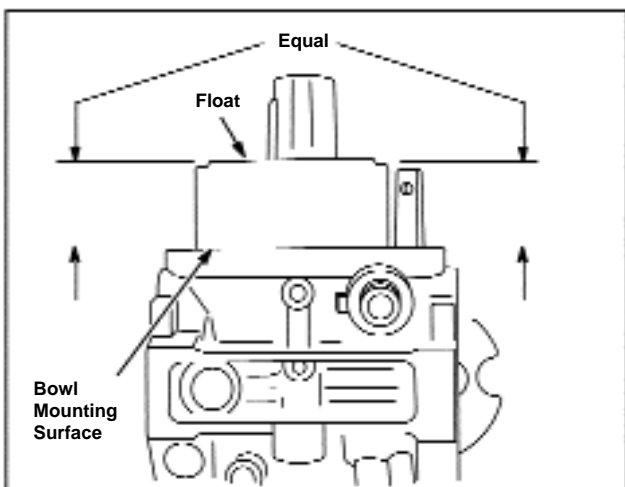

Figure 33 - Inspecting Float
1. With carburetor body upside down, the float should be parallel with carburetor bowl mounting surface. See Figure 33.